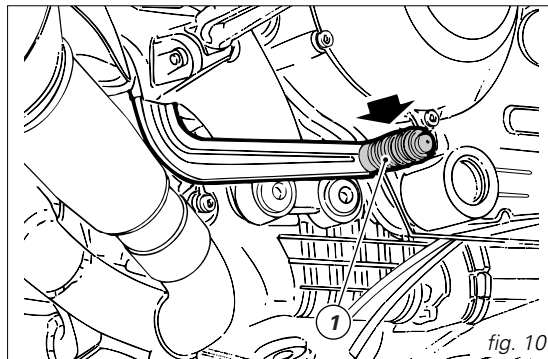

fig. 10
**Rear brake pedal** (fig. 10)